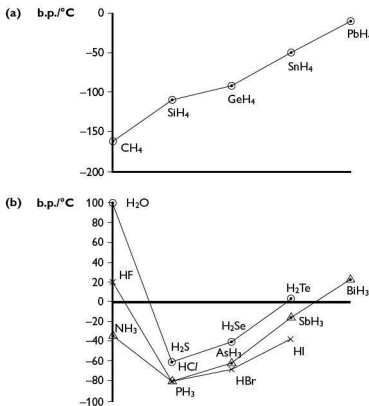

Figure 4.9 A comparison of the boiling points of some hydrogen compounds
Water is an extremely unusual compound. For example, from its relative molecular mass (18) we would expect it to be a gas (compare with nitrogen (28), oxygen (32) and carbon dioxide (44)). It is the presence of relatively strong hydrogen bonds that make it a liquid. Without these, life would not exist. The boiling points of some hydrogen compounds are compared in Figures 4.9(a) and (b).
Many elements form compounds with hydrogen called **hydrides**. The boiling points for the hydrides of Group IV elements are plotted in the graph shown in Figure 4.9(a). Graphs for the hydrides of elements in Groups V, VI and VII are very different (Figure 4.9(b)). Although for the second and subsequent elements in each group you get the expected pattern, the first element in each group shows a much higher boiling point than expected. The reason for this is that these compounds have significantly stronger bonds between the particles. These are **hydrogen bonds**, which were discussed in Chapter 3.